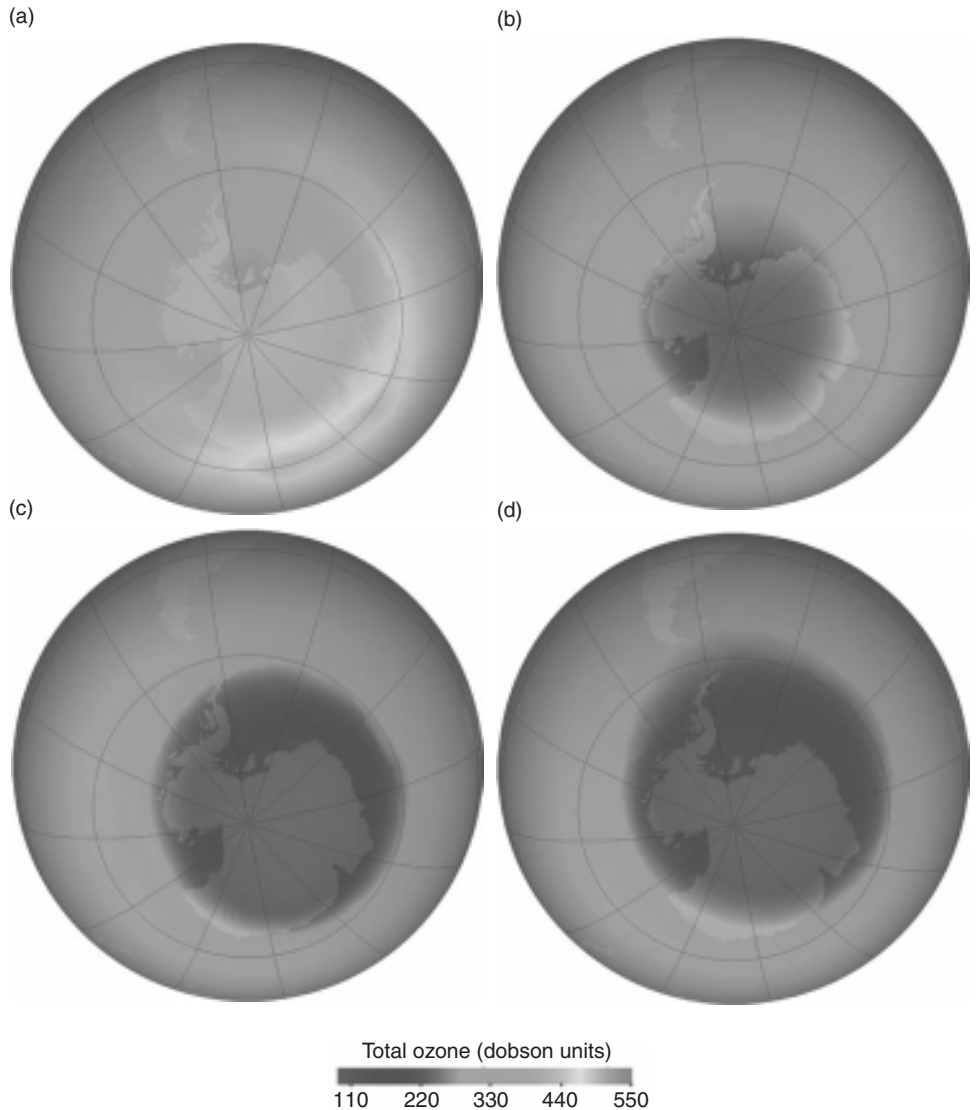

Figure 8.5 Visualizing Antarctic ozone-thinning. (a) 1979; (b) 1986; (c) 1996; (d) 2008. Credit: US NOAA
- In Figure 8.5, the region outlined at the bottom of the globe is Antarctica. In 1979, no ozone depletion is seen. By 1986, a shaded area which represents a thinning of ozone (the “ozone hole”) is seen over this continent; the shaded area continues to be obvious in 1991 and in 2008.¹⁵